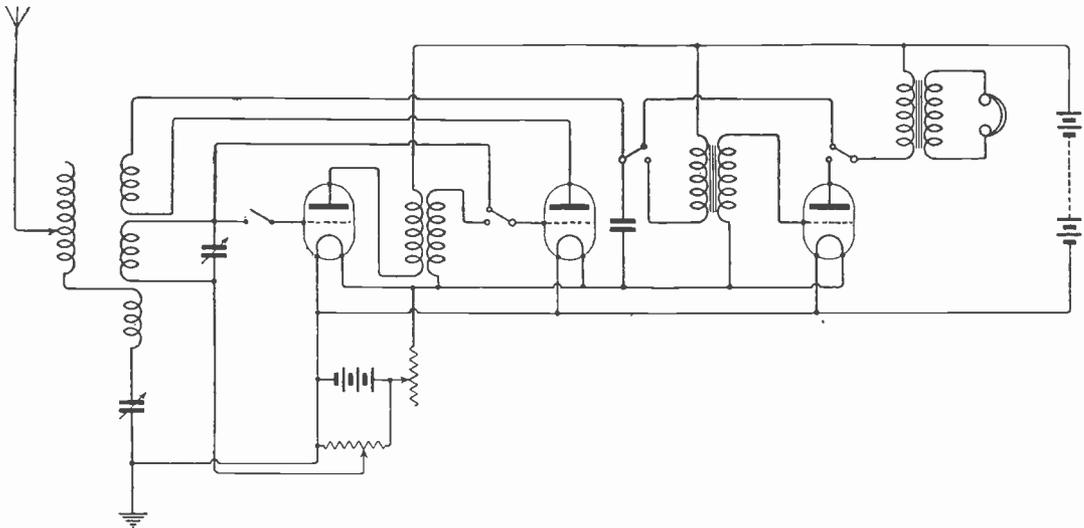

Fig. 5.
(1) One method of obtaining the required result is shown in the diagram, Fig. 5, but you will get better results with a simpler set.
(2) The No. 1 unit is best left as it is. For the No. 2 unit use a former about 3" in diameter, put on one thousand turns in about ten layers; tap the coil in the same proportions as before.